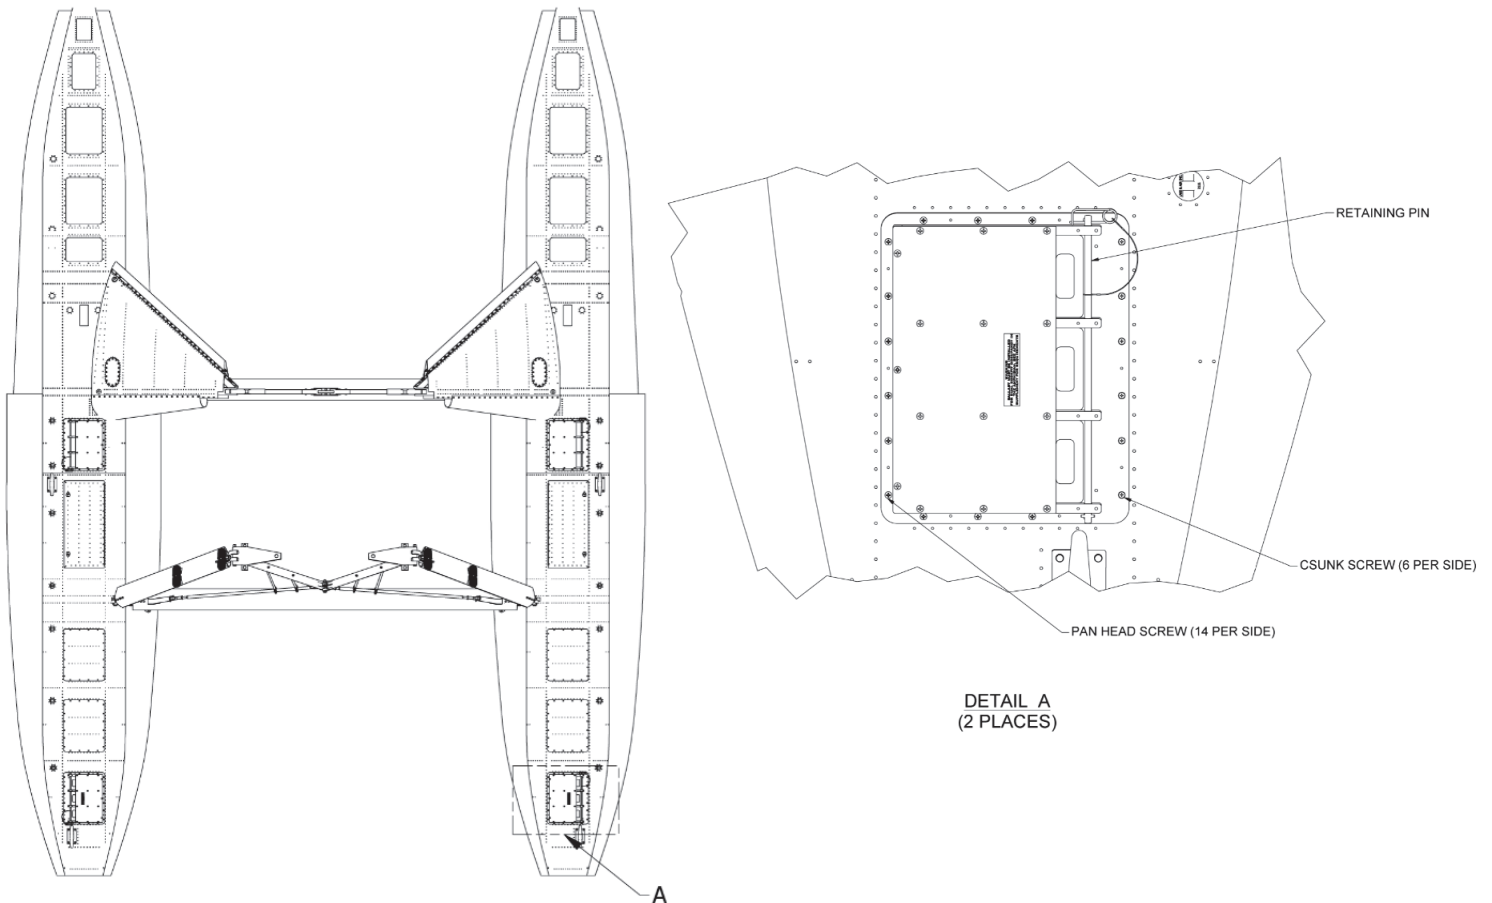

Figure 1
1. Temporarily remove forward ballast assemblies from floats by removing (14) pan head screws and (6) countersunk screws per float. Remove retaining pin as needed to access screw heads. Reference Figure 1.